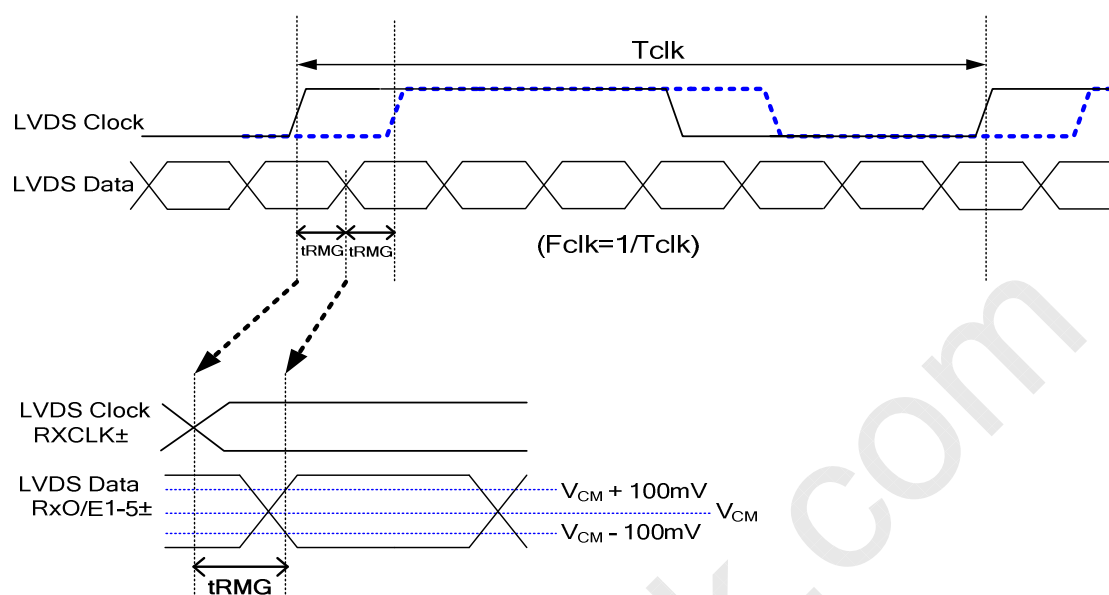

Figure 3: LVDS Clock to Data Skew Margin
7. Measurement of **LVDS Clock to Data Skew Margin** is shown in Figure 3.